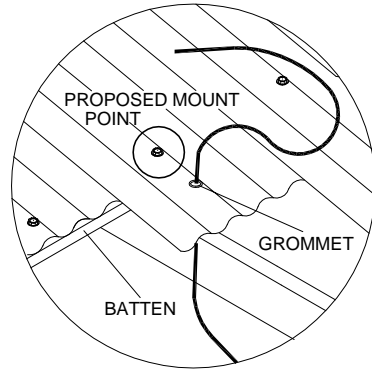

figure 5
STEP 2: To provide an entry for the coaxial cable, drill a Ø10 hole through the roof sheeting next to the batten which is to have the Mast Clevis bracket screwed to it. Moisten and insert the grommet supplied through the hole and feed the end of the coaxial cable through it. Push sufficient cable through to make connection with the LNB. Run cable as necessary inside the house (see fig 5).